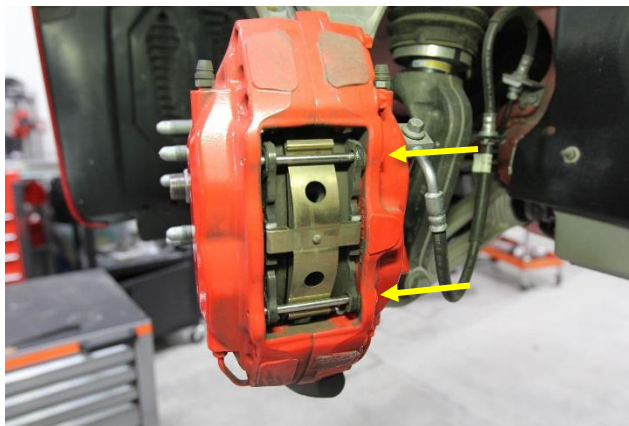

Figure 15 (Front caliper shown, rear caliper similar)
18. Use the 4mm pin punch to install the anti-rattle spring and retaining pins into the front LH caliper (Figure 15).